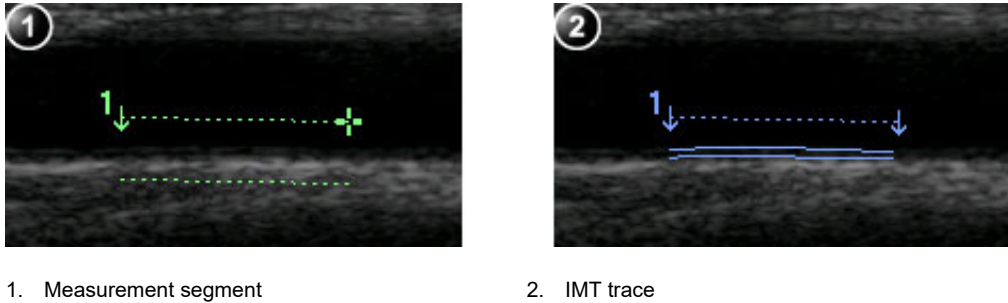

Figure 8-49. IMT Measurement segment and traces
6. Place the cursor in the artery closer to the posterior wall and press **Select** to anchor the start of the search region (Figure 8-49, left).
7. Move the cursor parallel to the artery to define the end point of the search region. Make sure the Intima and Media layers are within the search region (indicated by the lower dotted line in Figure 8-49, left).
Press **Select** to anchor the point. For the posterior wall the contour detector searches for the leading of the edges of the intima and adventitia layers. The detected contours are drawn in the image (Figure 8-49, right).